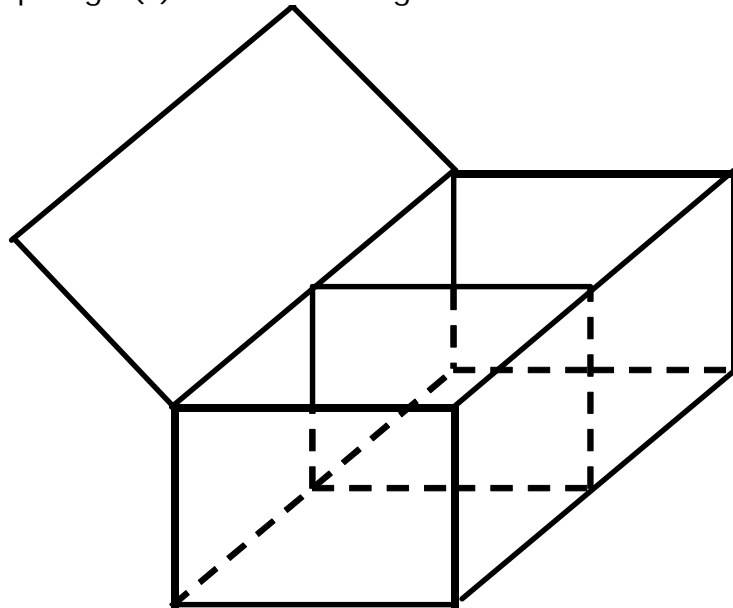

Figure 7: Assembled Gabion ready for installation
3.4: Bend up front and back of gabion and lace to the end pieces and diaphragm(s) as shown in Figure 7